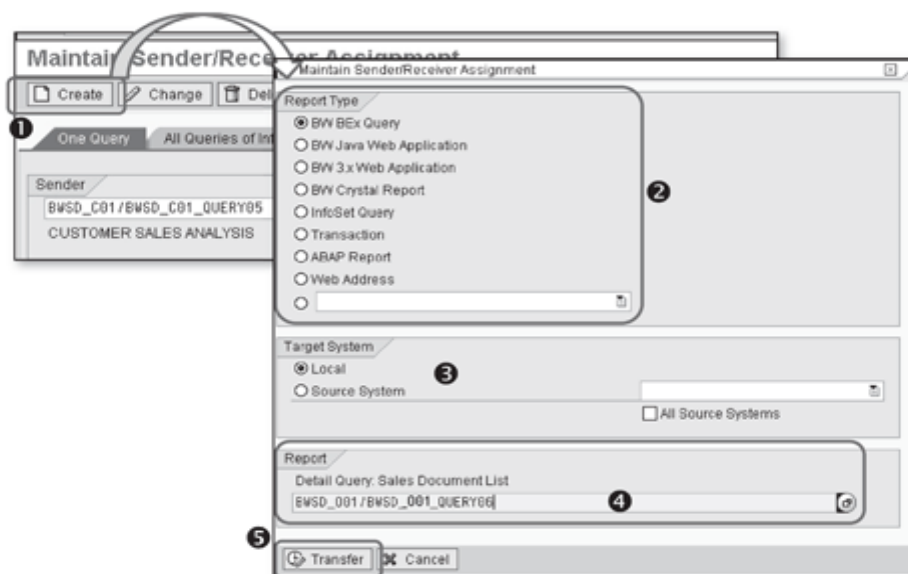
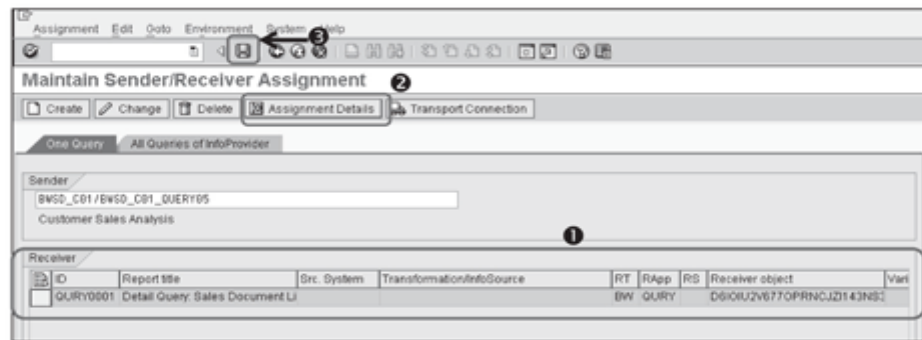
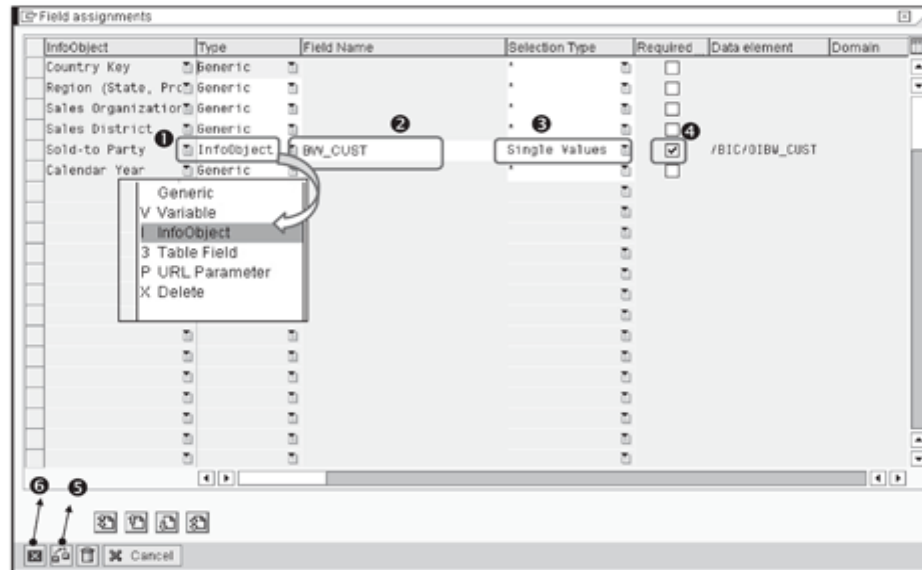

Figure 9.94 Create a New Assignment
Figure 9.95 Go to Assignment Details
Figure 9.96 Maintain Field Assignments
1. Use transaction code RSBBS to call the transaction Maintain Sender/Receiver Assignment (see Figure 9.94).
2. The RRI settings can be maintained for a specific query as well as for all of the queries on an InfoProvider. Select the One Query tab, and then select the Sender query (see Figure 9.94).
3. After you select the sender query, click on the Create button (❶) to create a new sender/receiver assignment. A pop-up will appear where you can define the assignment.
4. In the pop-up box shown in Figure 9.94, define the receiver information. The receiver could be queries and web applications from BEx as well as from older versions of SAP NetWeaver BW (SAP NetWeaver BW 3.x). The receiver could also be a transaction or a report or a web address. Different options are shown in ❷ of Figure 9.94. For our example, select the option BW BEx query as the receiver.
5. Select whether the receiver is in the same system as that of the sender or in some different system (❸), and define the receiver query (❹). For our example, the Detail Query: Sales Document List is maintained as the receiver.
6. Click on the Transfer button (❺) to complete this configuration and return to the main screen. This newly created assignment is now visible in the Receiver section as shown in Figure 9.95.
7. You have to now maintain the specific parameters of this assignment where you specify how the information will be exchanged between the sender and the receiver. Select the assignment (❶ of Figure 9.95), and click on the Assignment Details button (❷). This opens the Field Assignments pop-up box as shown in Figure 9.96.
8. On the Field Assignments screen, you actually define how the information will be passed from the Sender to the Receiver. Select the type of assignment (❶ of Figure 9.96), and specify the InfoObject name as the Field Name (❷). Maintain the Selection Type (❸), and select the checkbox in the column Required (❹), so that the receiver query is called and executed only if it's called for a customer value.
9. Check the details by using the button shown in ❹ of Figure 9.96, and finally complete the assignment and close this window using the button shown in ❸.
10. The RRI definition is complete, and you can now save this definition using the save button shown earlier in ❶ of Figure 9.95.